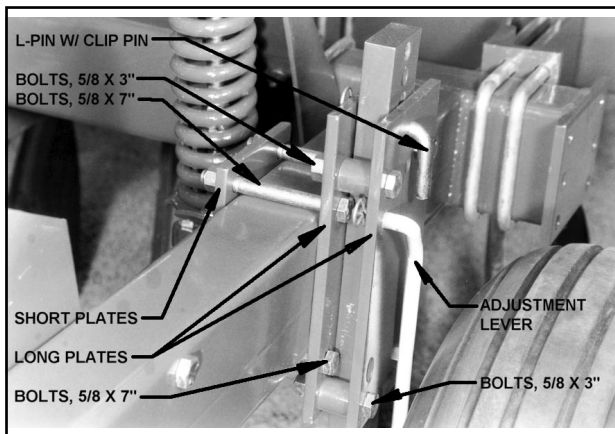

Figure 3-26 - Gauge Wheel Support
- 3-18.2** Attach one long plate and one short plate to wing frame with four 5/8" x 7" cap screws, lock washers, nuts (**See Figure 3-26**).